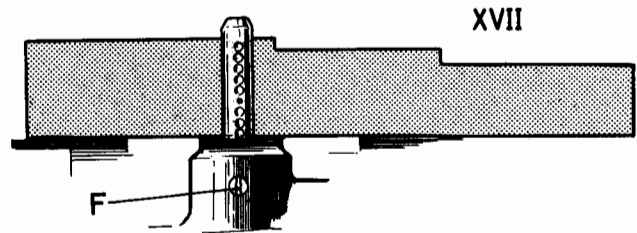

Fig. 6.10
2. Loosen lock screw F. See Fig 6.10.